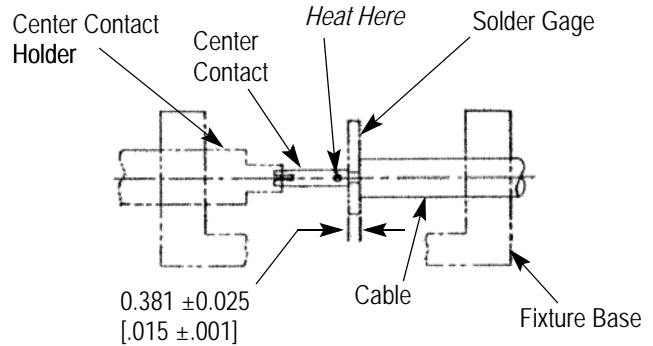

Figure 4
2.2. Soldering the Center Contact to the Cable Inner Conductor (See Figure 4)